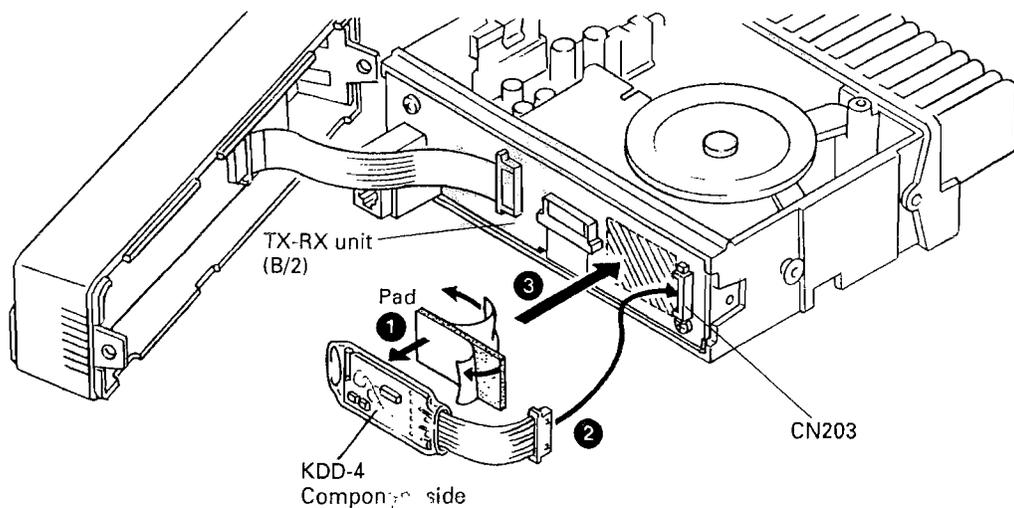

Fig. 4
2. Install the KDD-4 on the TX-RX unit (B/2). (Fig. 4)